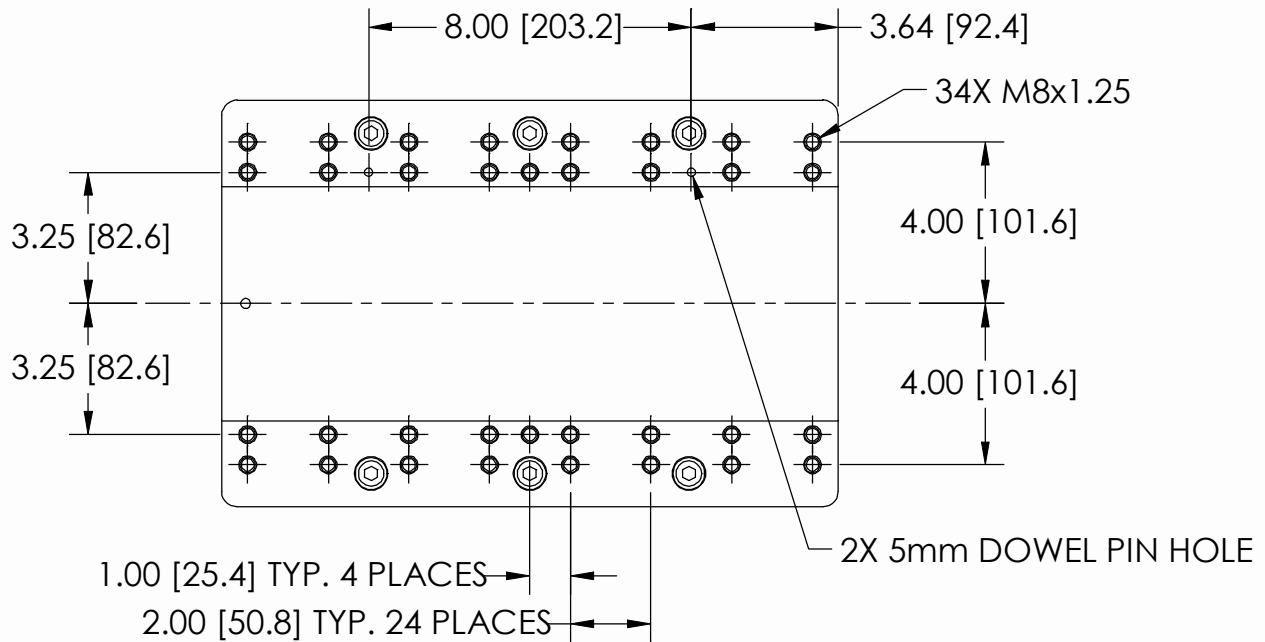

Figure 1. Carriage bolt hole pattern
The bolt pattern on the Carriage has been designed to facilitate process equipment installation. The Carriage has thirty-four (34) M8x1.25 mounting holes with a depth of 0.52 inch (13 mm) to provide secure attachment points. The mounting holes are spaced as shown in Figure 1. The Carriage also has two (2) 5mm dowel pin holes to be used for process equipment alignment. (See Figure 1 for location) These dowel pin holes are oversized to allow the pins to be glued into place using Loctite 609, or equivalent. **DO NOT press pins into the AFD Carriage, as this will damage the Linear Rails.**